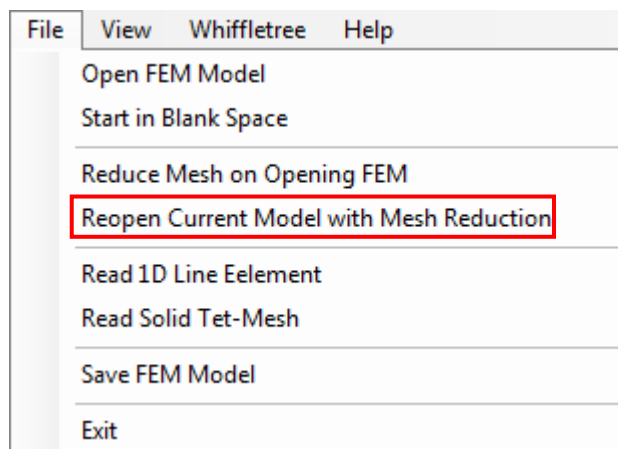

Figure 3-5
2. Select "Reopen Current Model with Mesh Reduction". (Figure 3-5)